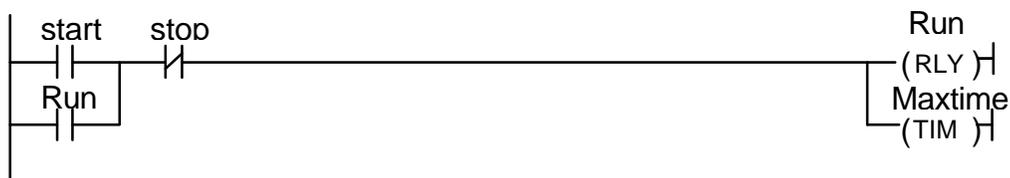

Figure 3.2
- Notice that the cursor changes to a full cursor which remains at the power line location. The local menu "Circuit" is now replaced by local menu "Ins Element". We are ready to create Circuit #1 as shown in Figure 3.2